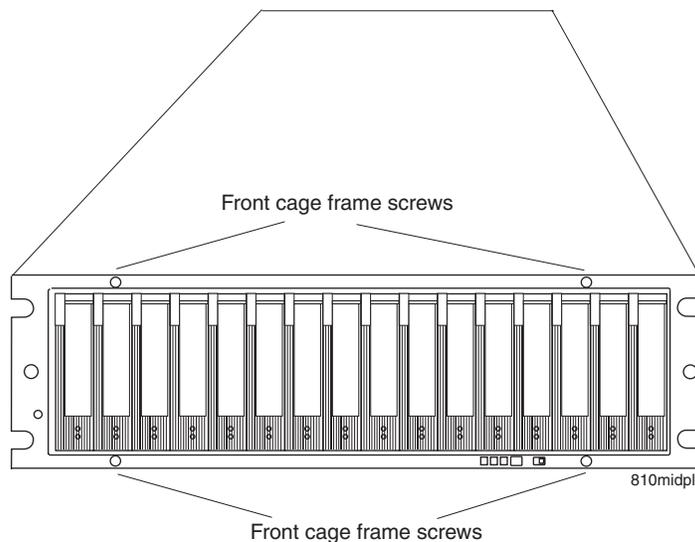

Figure 39. Front cage frame screw locations
10. Use a #1 Phillips screwdriver to loosen the four front cage frame screws on the midplane, as shown in Figure 39.
- Tighten the four front cage frame screws. See Figure 39 on page 91.